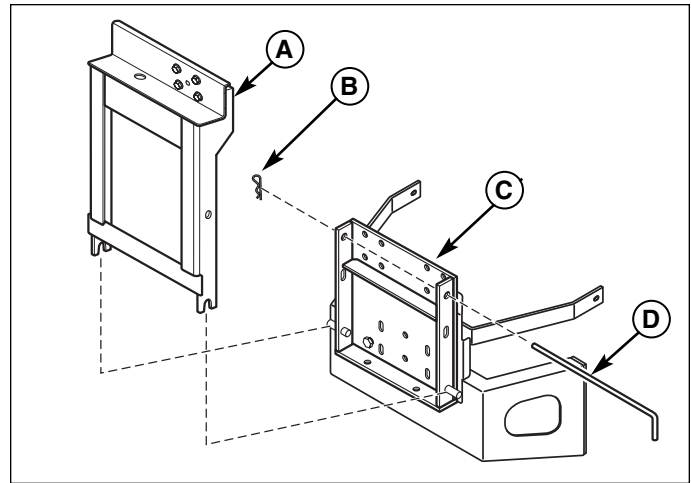

Figure 18. Install Back Plate (Flat Style Bumper)
Note: Back plate (A, Figure 18) will fall when rod (D) is removed.
3. Remove the hair pin (B, Figure 18) and rod (D) while holding back plate (A).
4. Lift the back plate and support (A) off hitch plate (C).